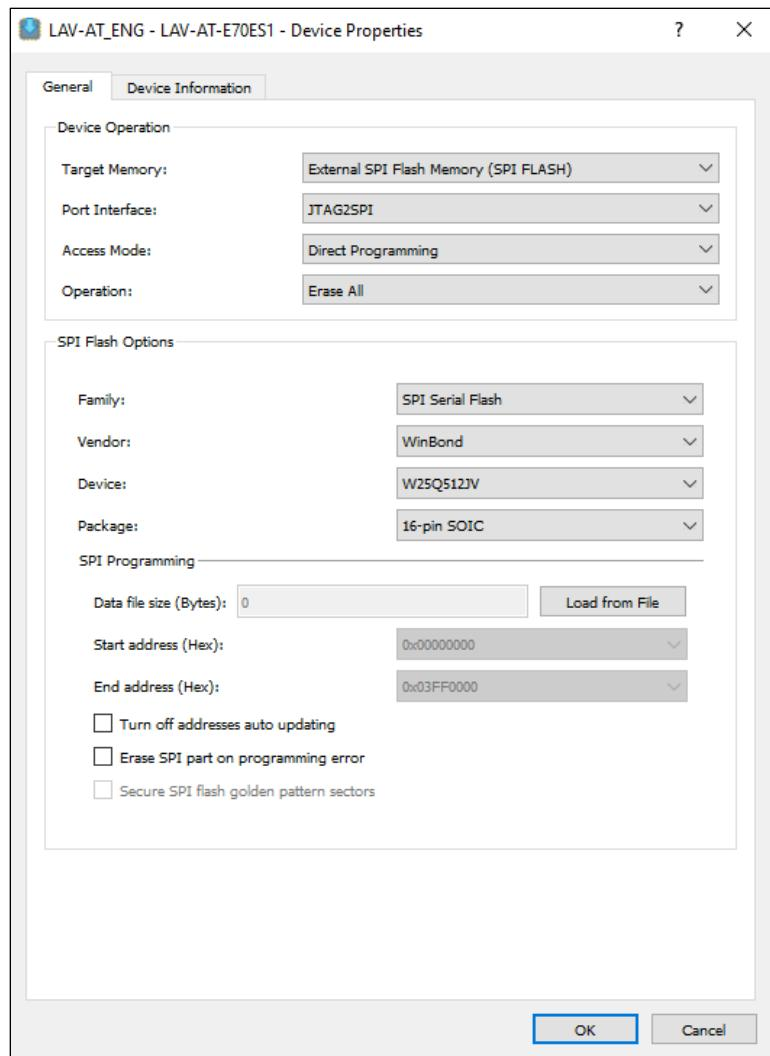

Figure 7.15. Device Properties to Erase the SPI Flash
9. Before programming, you need to erase the entire SPI Flash Memory by applying the settings shown in Figure 7.15.